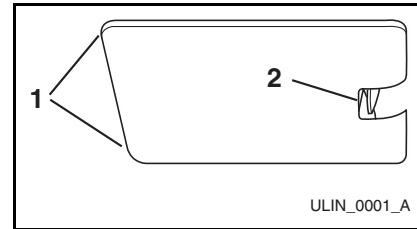

Figure 24
1. Grasp the edges of the light housing lens (**Figure 24, 1**) opposite the exposed tab and gently push the lens toward the tab (**Figure 24, 2**).
2. Pull the edge of the lens down (**Figure 24, 1**) and swing it out of the light housing.